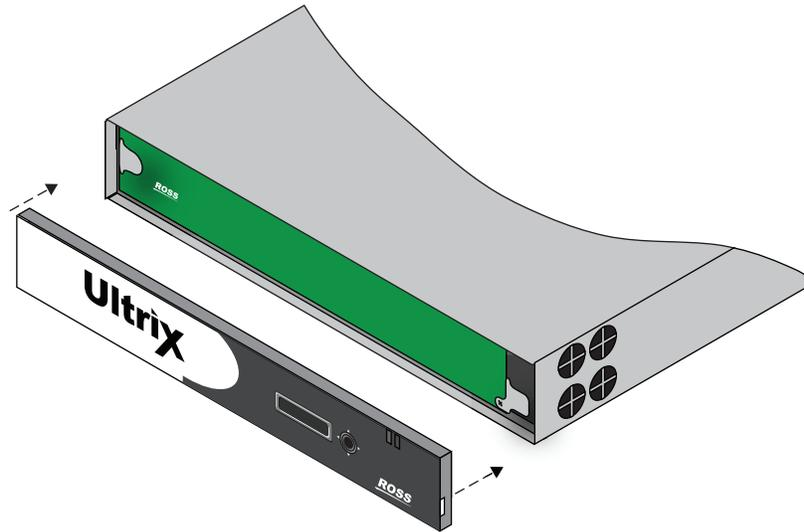

Figure 7 Front Panel — Aligning the Door to the Chassis
1. Align the door to the front of the router, ensuring that the door is oriented upright, the corner with the Ultrix logo is in your left hand, and the corner with the Ross logo is in your right hand. Refer to **Figure 7**.